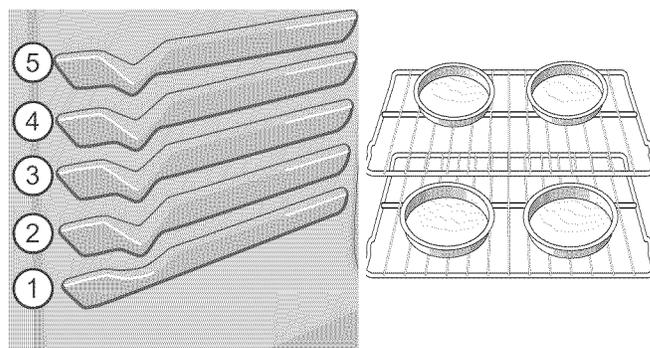

Figure 22: Convection rack positions and pan spacing
- For best results when baking cakes using 2 oven racks, place racks in positions 2 and 4 and position bakeware as shown in Figure 22.